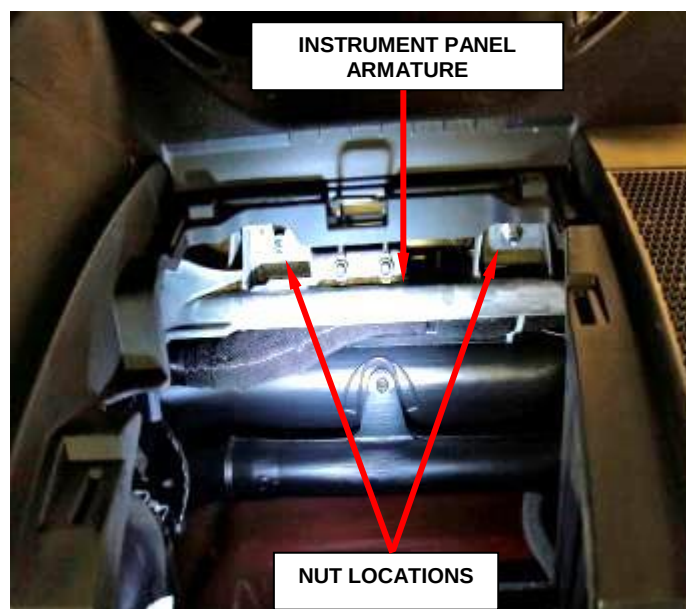

Figure 167 – PAB Lower Nuts
14. If equipped with power windows, using a Trim Stick C-4755 or a suitable flat bladed tool, gently pry the switch assembly away from the instrument cluster bezel (Figure 167).
16. Disconnect the switch assembly electrical connector and remove the switch (Figure 167).
17. Remove the screw from the power window switch opening (Figure 167).